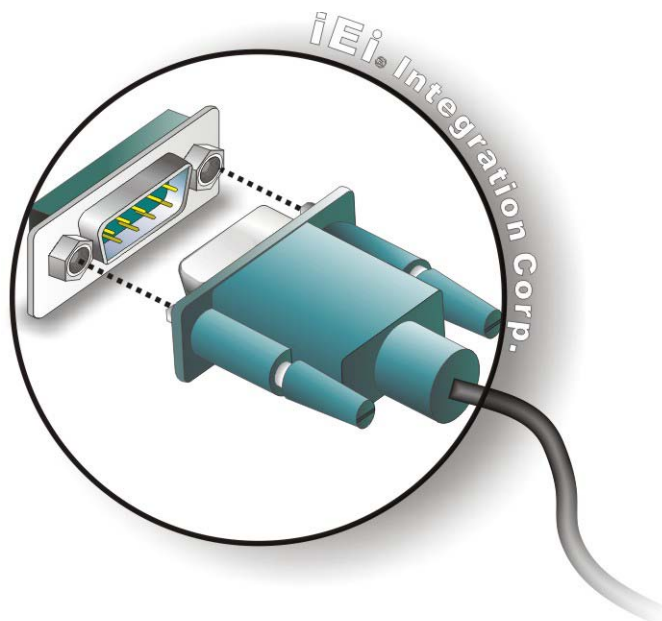

Figure 3-24: Serial Device Connector
Step 2: Insert the serial connector. Insert the DB-9 connector of a serial device into the DB-9 connector on the external peripheral interface. See **Figure 3-24**.